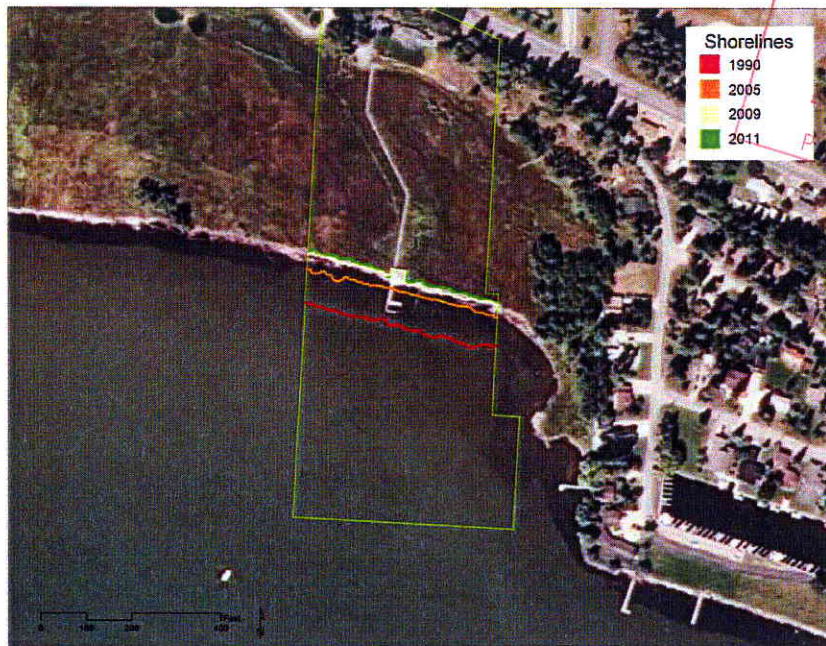

Figure 2. This graphic shows the Blackwood property (green polygon) and position of historical shoreline locations that depict the extreme loss of land.
**Goal:** Rick and Robin Blackwood own property on the North Shore of Flathead Lake near Bigfork (Fig. 1). This property has a severe erosion problem (Fig. 2) that they would like to stop using a soft structure gravel beach approach that mimics the shoreline restoration steps taken by the USFWS and MTFWP on those water fowl production (WPA) properties immediately to the west (Fig. 3). The Blackwood's approach is to utilize the concept of a re-curved spit (Fig. 3 inset) to perform two functions; 1) stop the loss of land by stabilizing the shoreline and 2) provide protection from waves and the coupled battering action of logs for their existing dock. They also wish to contain the gravel that they place on their property. The restoration goal is to have the river, waves, wind and natural plant colonization do the work of shoreline restoration once the shoreline position has been stabilized with gravel and cobbles.